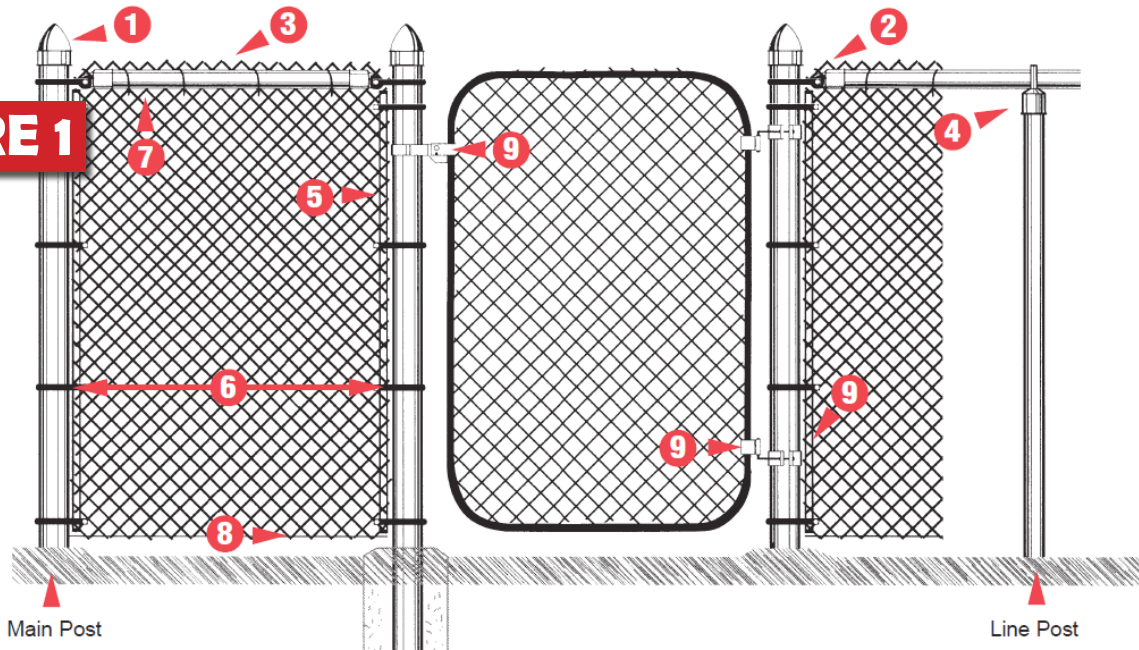

FIGURE 1
Step 4: After the posts have been installed and the concrete allowed to set up, slip tension and brace bands on terminal posts. (See Figure 1) The tension bands should be spaced approximately 10 – 12” apart. Do not spread or distort bands. All bolt heads for bands are on the outside of fence and the threaded ends are on the inside. Then apply all terminal post caps. Do not leave posts uncapped overnight. This is to ensure water is not inside the post over winter months. This water can freeze and cause a seam split at base of post.
Step 5: Next, attach line post caps (See Figure 1). They are set with the top rail hole offset toward the outside fence making flush the outside face of the top rail through the loop caps. Join the top rail with the swaged end where required. Plain end of the top rail fits into rail end fittings on the terminal post.